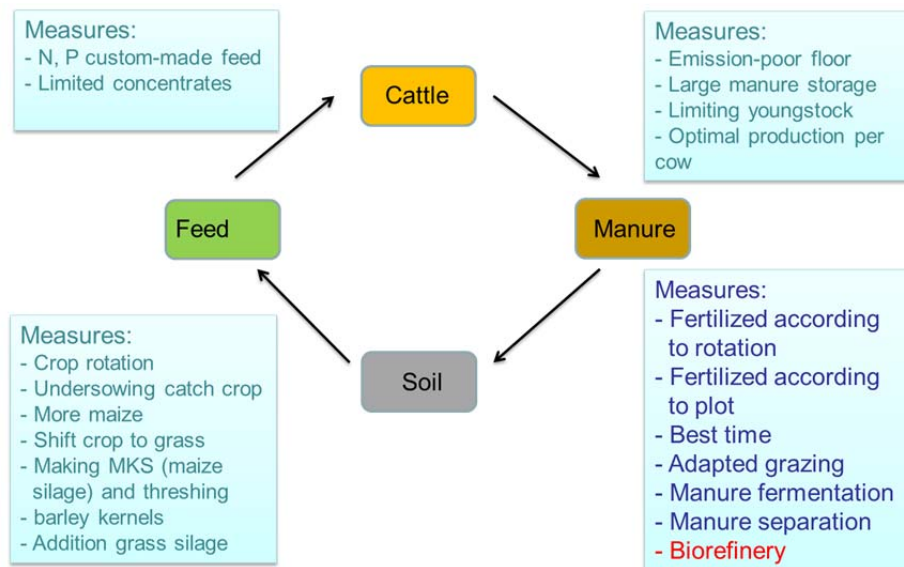

Figure 1: Biorefinery as component of mineral management.
1. Further closing the mineral cycle on De Marke (figure 1);